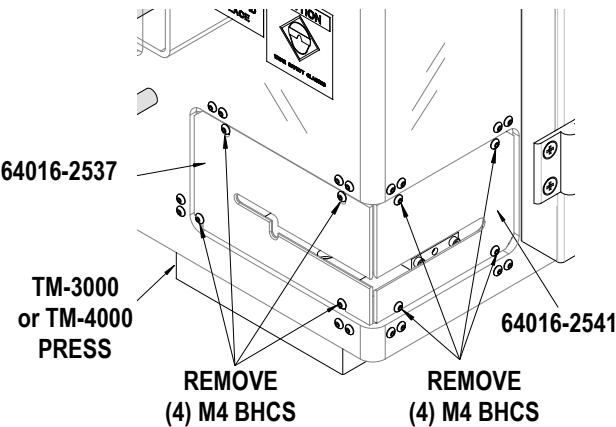

Figure 4-5
- Remove the (4) M4 BHCS from the Front Guard (Order number 64001-2537) and the (4) M4 BHCS from Right Guard (Order number 64016-2541). See Figure 4-5.